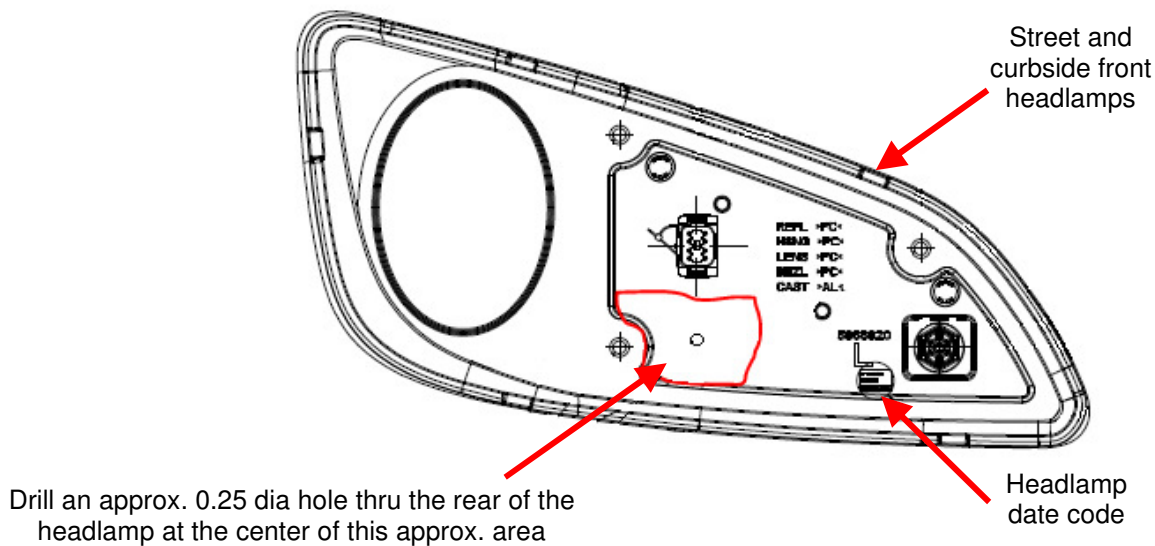

Figure 1: Headlamp Date Code and Hole Locations, Typ for CS & SS
3. Inspect the date stamp on the existing curbside and street side headlamps, an inspection mirror may be needed to view the date stamp location, see Figure 1 for date stamp location.